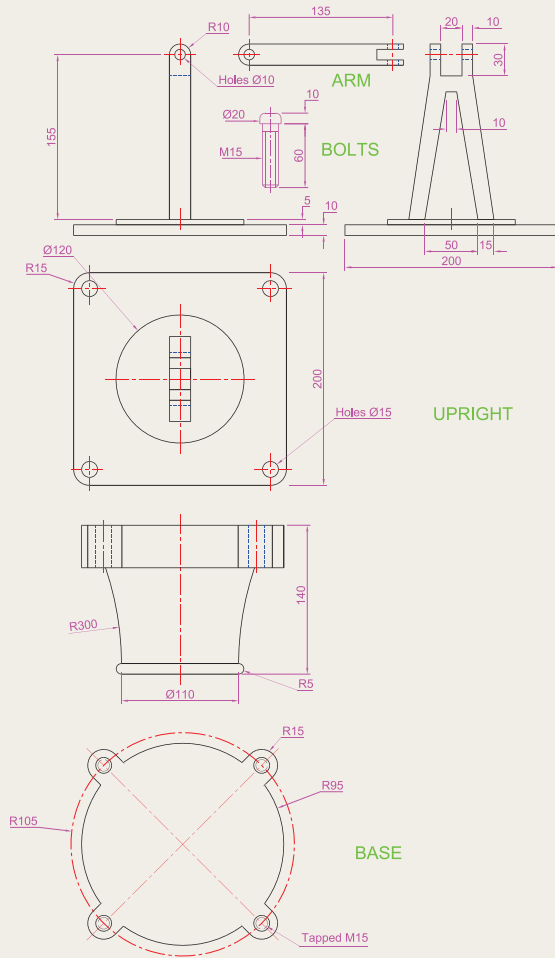

Fig. 18.27 Exercise 3 – the parts drawing
3. Construct the 3D model shown in the rendering (Fig. 18.26) from the details given in the parts drawing of Fig. 18.27.